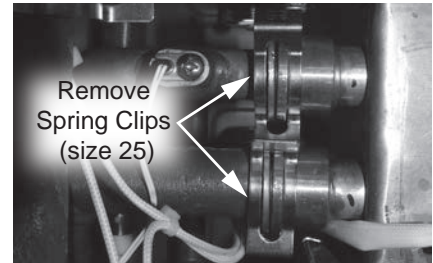

Figure 145 - Disconnecting primary HEX water piping
- 36** Locate the inlet and outlet water connections on the primary HEX. Remove the two spring clips (size 25) securing the water connections and place them aside in a safe place for reinstallation. Disconnect piping. See Figure 145.